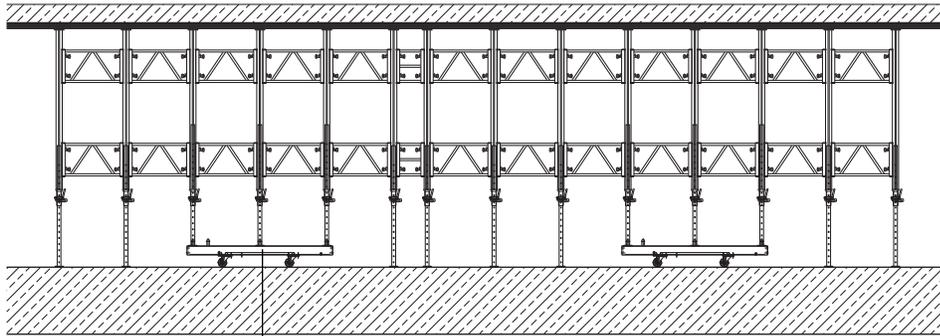

Fig. 33.1
4. Pull out post shores and attach them at the transport waler by using pins (Fig. 33.1).
The unit, shown in Fig. 33.1 to 33.3 weighs approx. 11,900 lbs (5.4 t) including slab formwork. The four (4) transport walers used in this example would be able to handle a total weight of 26,400 lbs (12 t). 4 x 6,600 lbs (4 x 3 t).